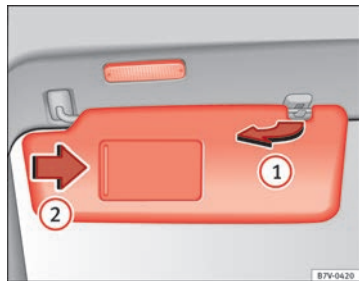

Fig. 64 Sun visor
- The sun visor can be pulled out of its mounting and turned towards the door → Fig. 64 ①.
There may be a vanity mirror, with a cover, on the rear of the sun visor. When the cover is opened → Fig. 64 ② a light comes on.